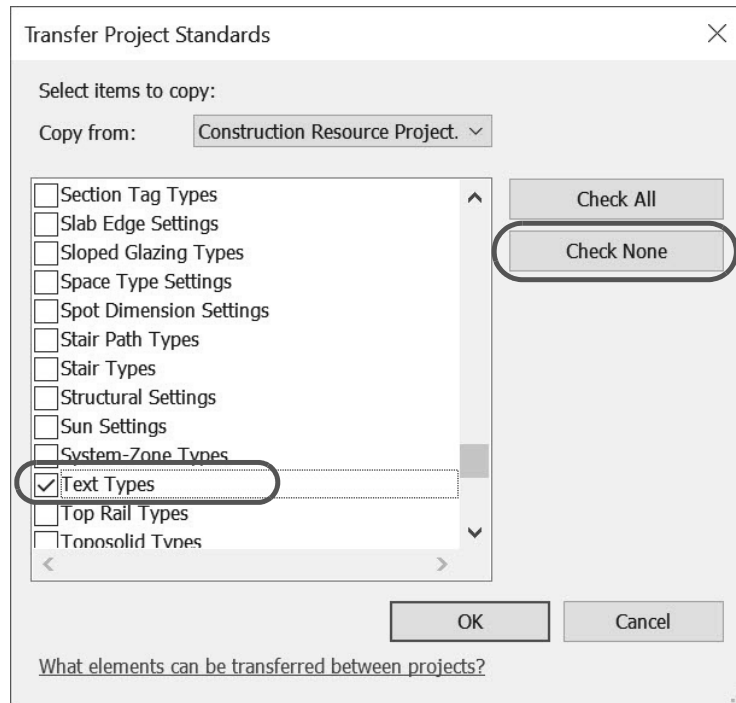

Figure 1–41
5. In the *Transfer Project Standards* dialog box, in the *Select items to copy* area, note that the *Copy from* drop-down list is set to **Construction Resource Project.rvt**. Click **Check None** to deselect everything in the list, then select **Text Types** (as shown in Figure 1–41) and click **OK**.